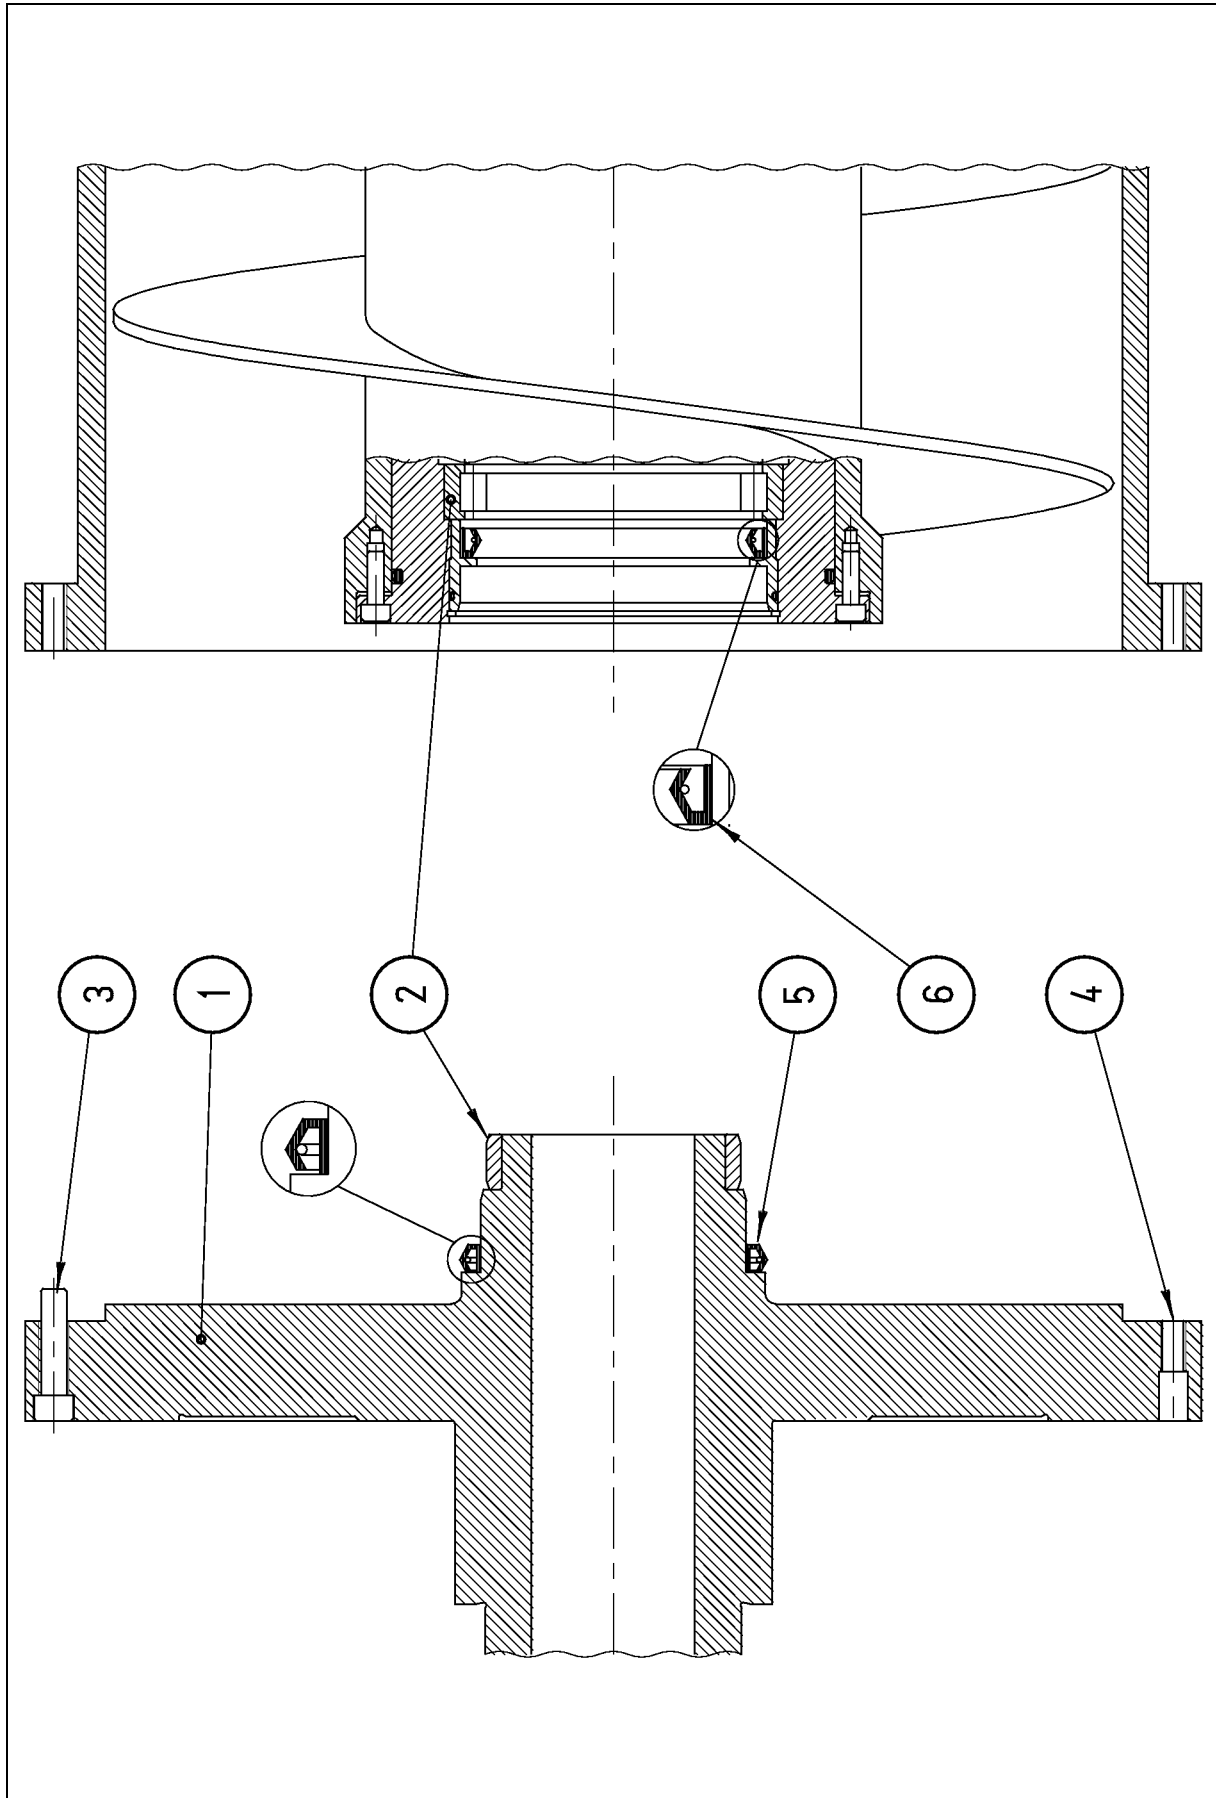

Figure 4.1.2
4.1.3 Remove Large End Hub (Fig. 4.1.2)
4.1.4 Install Large End Hub (Fig. 4.1.2)